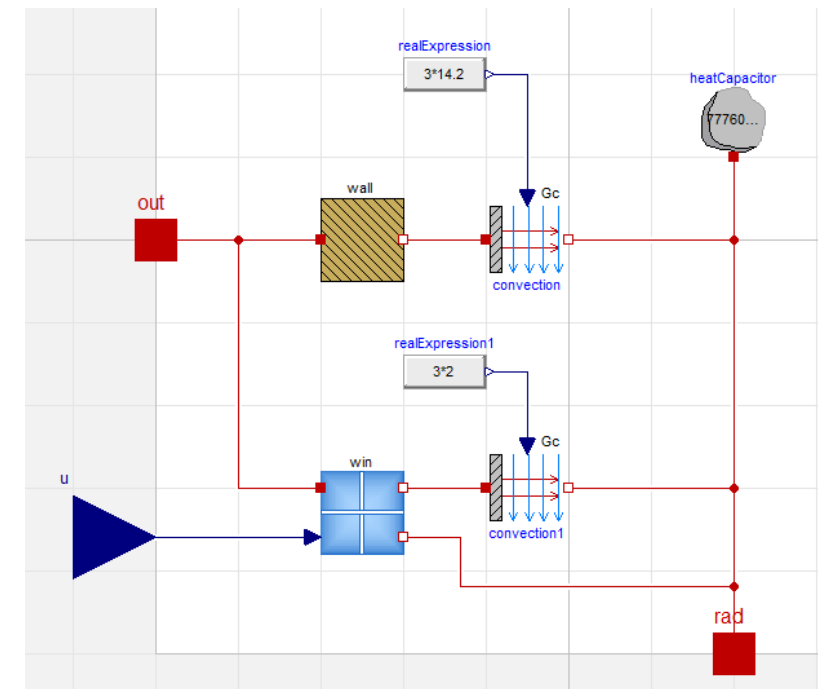

Figure 7.3: Connections in **HouseWallWinRad**
- `Modelica.Thermal.HeatTransfer.Interfaces.HeatPort_a` (1)
3. Connect the components according to Fig. 7.3